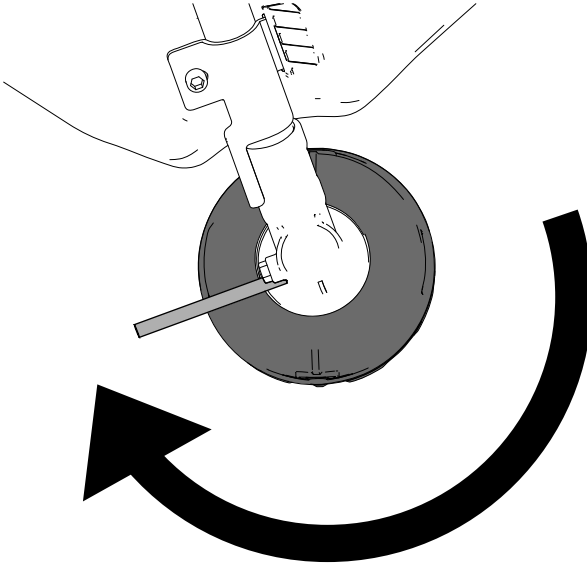

Figure 16
4. With the metal rod securing the trimmer head, rotate the trimmer head clockwise to remove it from the threaded gearcase post (Figure 16).
3. Remove the plug from the side of the trimmer (Figure 16).